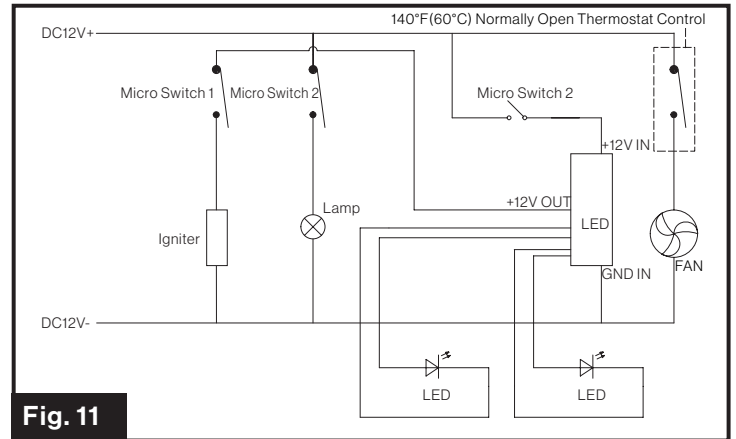

Fig. 11
- The power supply of this oven is 12V. Connect the components below separately. (Fig. 11)